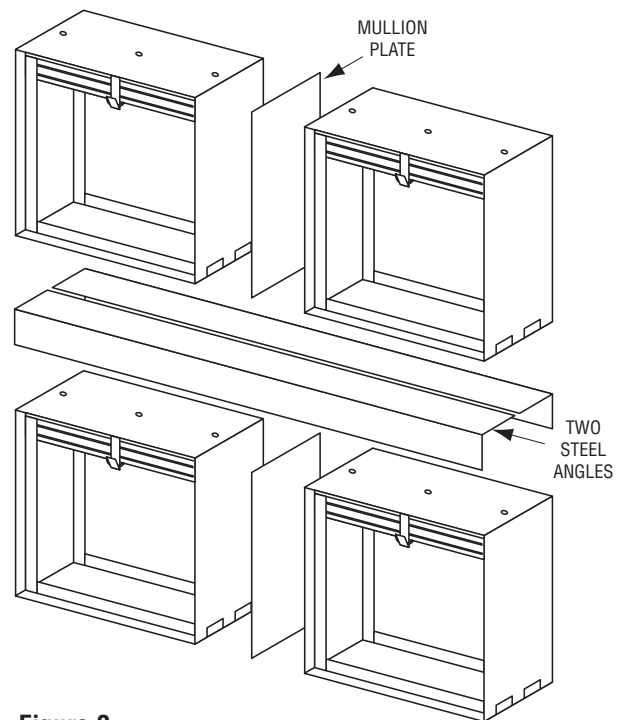

Figure 2.
Vertical dampers, 1 1/2 hr. label over 84" (2134) in width require a 12 ga. x 4 1/4" (2.75 x 108) wide steel mullion plate placed between adjacent vertical damper frames and the frames fastened together through this with 1/4" (6.35) bolts and nuts, 12" (305) max. on center. Dampers over 84" (2134) in height require a full length 2" x 2" x 10 ga. (51 x 51 x 3.51) steel angle bolted along horizontal joints on both sides of the assembly using 1/4" (6.35) bolts and nuts, 12" (305) max. on center (see Figure 2).